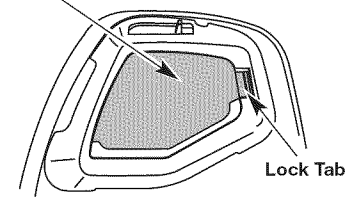

Fig. 33
1. Open the air filter cover by pressing the lock tab in and pulling out on the air filter cover (Fig. 33 & 34).